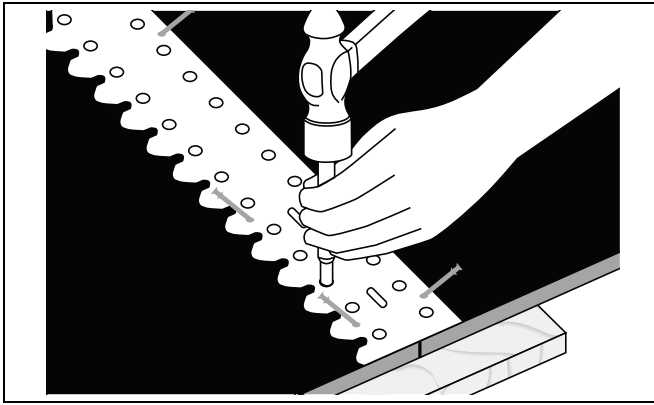

Figure 4E
2. Support belt ends with wood plank. Nail Flexco Templet in position with belt ends tight against lugs. Templet nails are in bolt bag. *(See Figure 4E on Page 29.)*